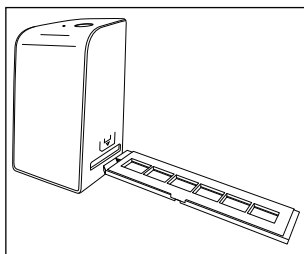

Figure 1
- ◆ Now insert the negative holder **5** with the triangle marking at the front and visible into the slot **4** on the right (see figure 1).